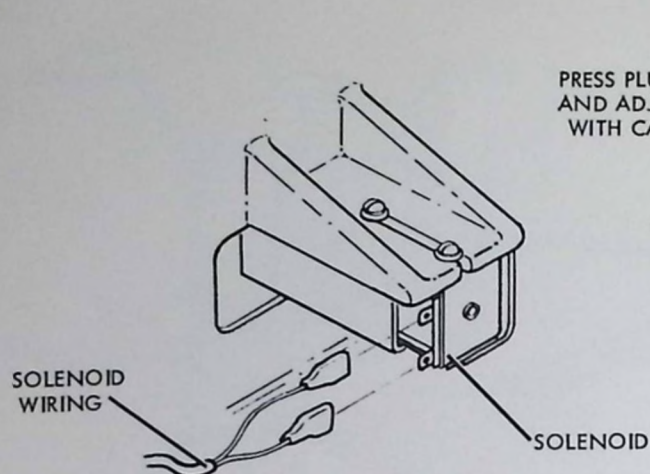

FIGURE 21
31. Attach the two (2) terminals to the goal solenoid as shown (Figure 21).